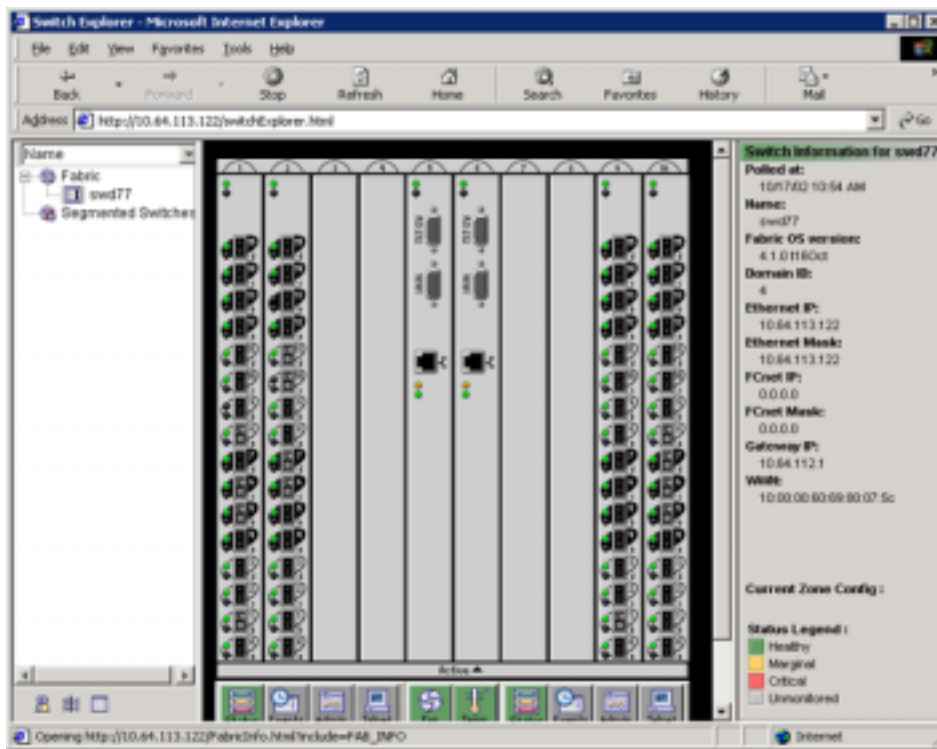

Figure 2-1 Switch View in Web Tools
- Click on the switch icon of the switch you want to monitor. The Switch View is displayed, as shown in Figure 2-1.